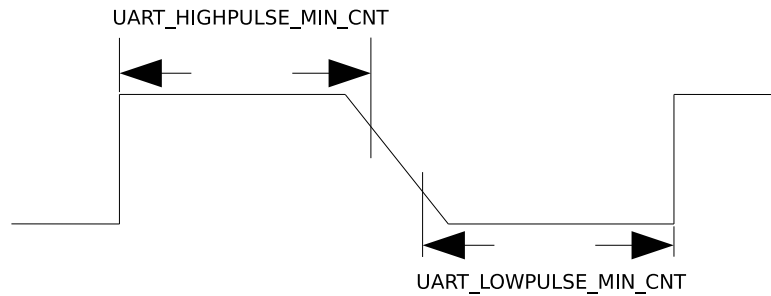

Figure 23-4. The Timing Diagram of Weak UART Signals Along Falling Edges
2. If UART signals are weak along falling edges as shown in figure 23-4, which leads to inaccurate average of `UART_LOWPULSE_MIN_CNT` and `UART_HIGHPULSE_MIN_CNT`, use `UART_POSEDGE_MIN_CNT` to determine the transmitter's baud rate as follows: